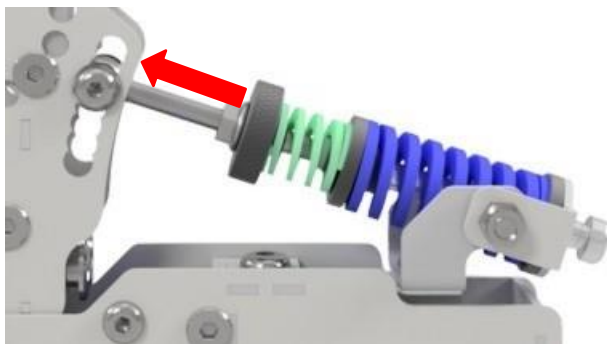

Fig. 3. The direction of winding out the knurled knob by hand
- A. Loosen the pressure spring by winding out the knurled knob by hand [Fig.3], so that it does not put pressure on the pedal lever.